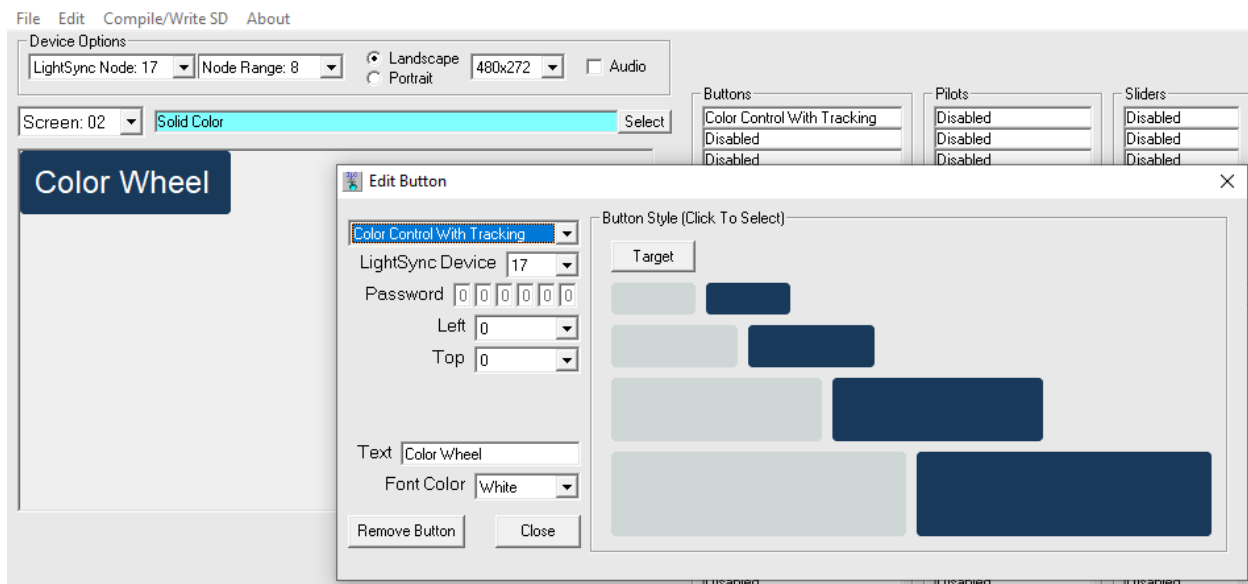

Figure 9 Color Wheel Options
2. Select one of the 8 buttons from the library available on the Edit Button screen as shown in Figure 9. You may also select the Target control button option, which is a button without graphics (invisible button) and can be made to any size. With this option, custom button graphics can be incorporated into the background bitmap to give your button any look desired.
6. Enter or remove the button text from the box provided. Font color can also be changed if needed. See Figure 9.
3. Select the drive letter for the SD card. Figure 9 shows “J: Removable” selected.